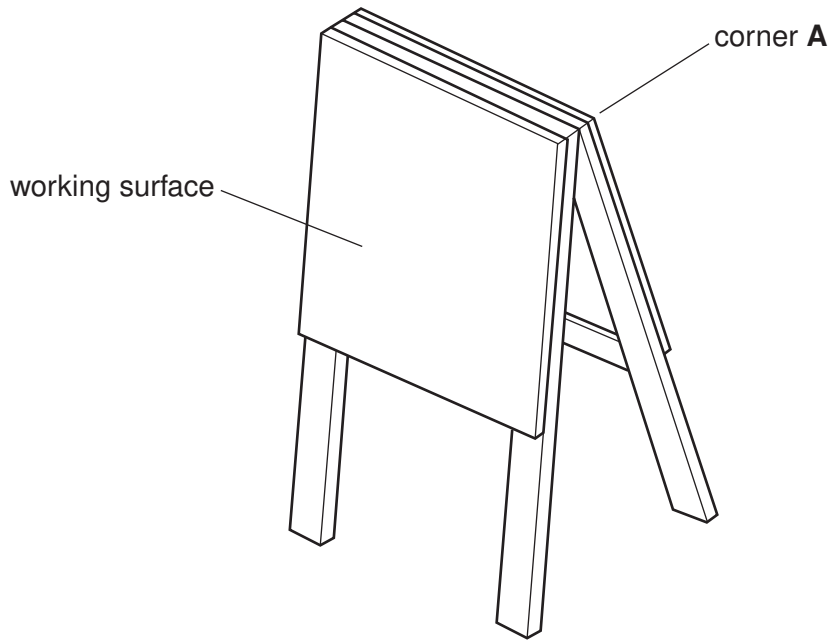

Fig. 4
- 3 Fig. 4 shows a child's easel made mainly from wood. It consists of two identical hinged at the top.